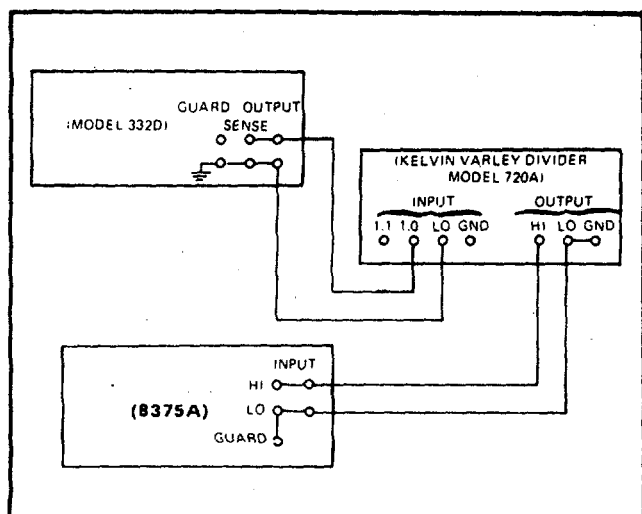

Figure 4-7. READOUT CHECK EQUIPMENT CONNECTION
- d. Connect equipment as shown in Figure 4-7.